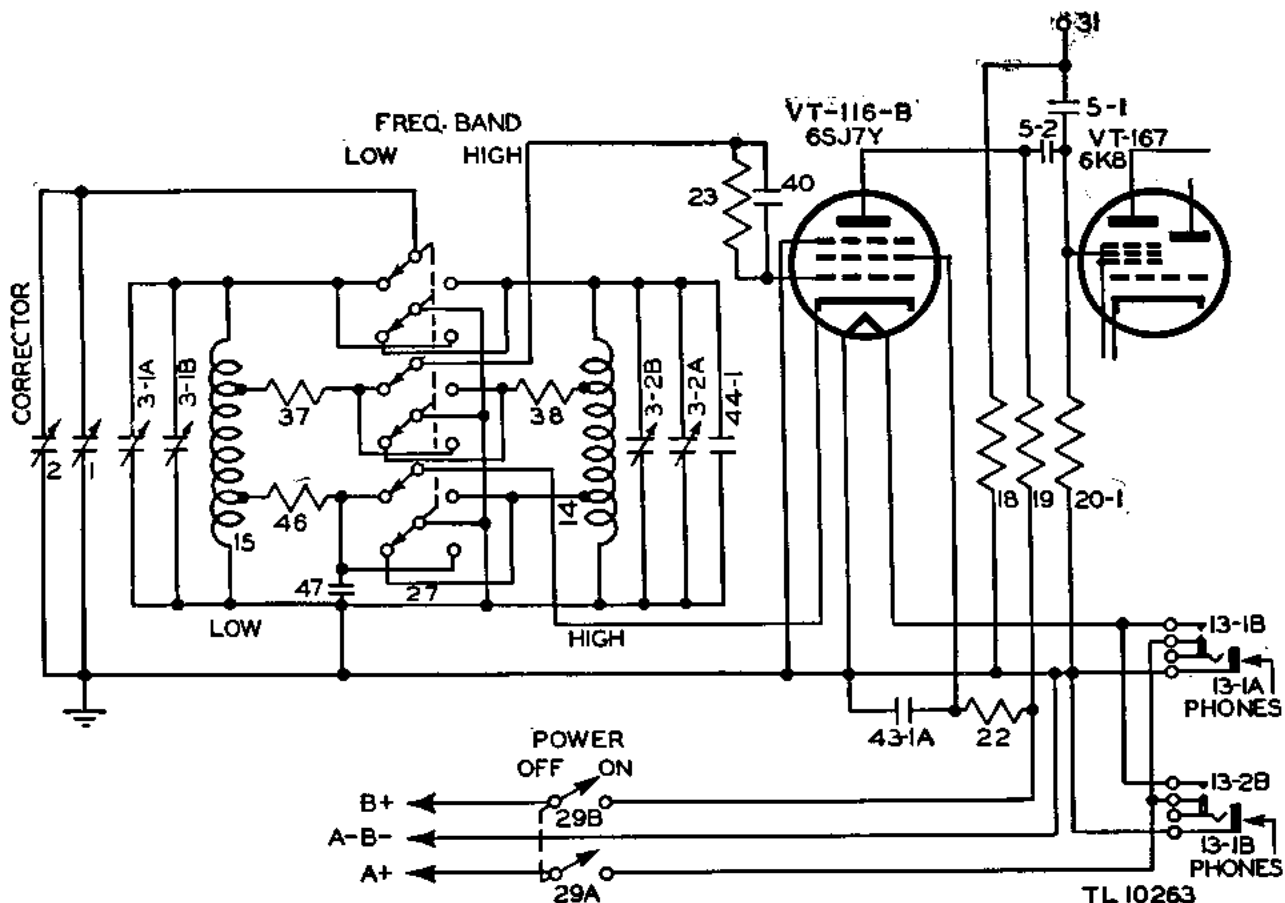

Figure 59. Frequency Meter BC-221-AC, functional diagram, variable frequency oscillator circuit.
(3) In the BC-221-AC, the band selector switch 27 is a double-throw, six-pole switch. (See fig. 59.) Three sets of contacts on this switch are used to short-circuit the unused coil in order to prevent interaction between the two coils regardless of which one is in use.
(4) All contacts of these switches are mounted on ceramic plates. In order to minimize abnormal capacitive effects, all contacts are made as small as possible and are of the self-aligning, self-wiping type. Each switch has a heavy detent which accurately locates the rotor plate in either one of its two positions.